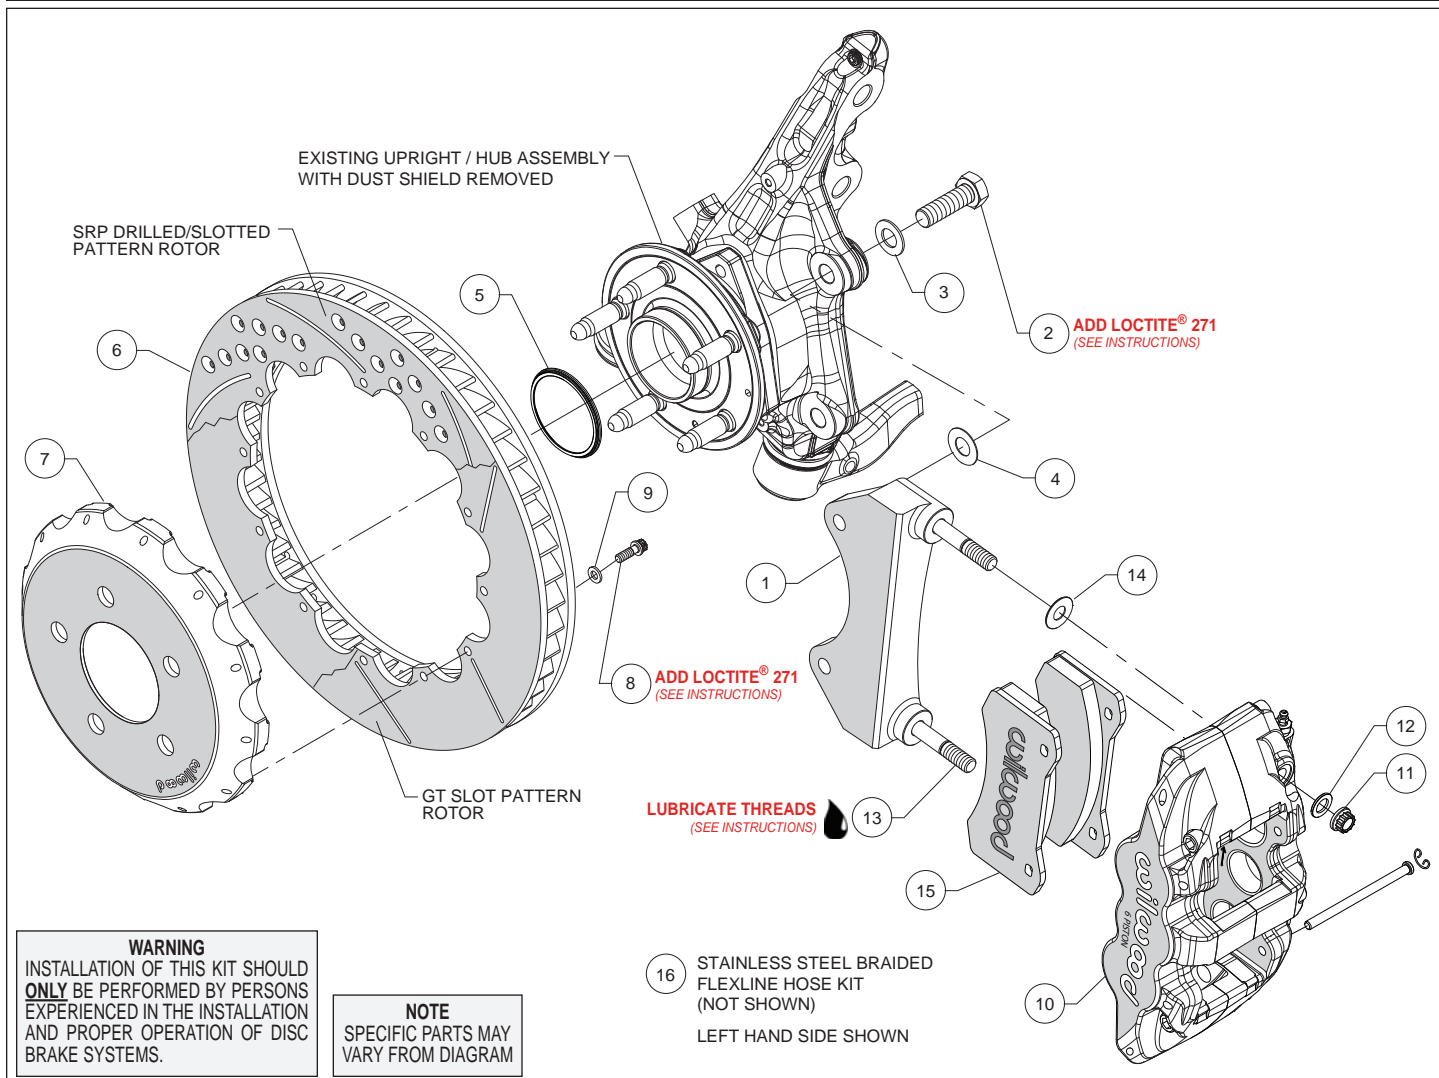
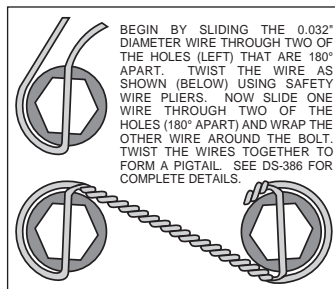

Figure 1. Typical Installation Configuration
Figure 3. Safety Wire Diagram
Assembly Instructions (numbers in parenthesis refer to the parts list and Figure 1 on the preceding pages):
- The caliper mount bracket (1) should initially be installed with clean, dry threads on the mounting bolts. Orient the bracket as shown in Figure 1, and Photo 1 and install using bolts (2) and washers (3). Initially place one .029" thick shim (4) on each bolt between the bracket and upright, Figure 1. Temporarily tighten the mounting bolts. **NOTE:** *The bracket must fit squarely against the mount bosses on the upright.* Inspect for interference from casting irregularities, machining ridges, burrs, etc. Later, after the caliper alignment has been checked, the mount bolts will be secured using red *Loctite*® 271.
- Orient the rotor (6) and the hat (7) as shown in Figure 1 and Photo 2. Attach rotor to hat using bolts (8) and washers (9). Using an alternating sequence, apply red *Loctite*® 271 to the threads, and torque to 155 in-lbs. For an added measure of security, the bolts may be safety wired using standard 0.032 inch diameter stainless steel safety wire as shown in Figure 3. Please refer to Wilwood's data sheet DS-386 (available at www.wilwood.com/Pdf/DataSheets/ds386.pdf) for complete safety wire installation instructions.
- NOTE:** *This kit contains distinct right and left hand calipers that must be mounted in a specific direction, as described below.* Lubricate the caliper mounting studs (13) with lightweight oil. Initially place one .030" thick shim (14) on each stud as shown in Figure 1 and Photo 5. Mount the caliper (10) onto the bracket (1) using lock nuts (11) and washers (12), Figure 1. Ensure that the caliper is mounted so that the largest pistons are at the rotor exit end of the caliper, in relation to the direction of rotor rotation. Temporarily tighten the lock nuts and view the rotor through the top opening of the caliper. The rotor should be centered in the caliper, Photo 6. If not, adjust by adding or subtracting shims (4) between the bracket and the upright. Always use the same amount of shims on each of the two mounting bolts. Once the caliper alignment is correct, remove the bracket mounting bolts (2) one at a time, apply red *Loctite*® 271 to the threads, and torque to 77 ft-lb.
- Remove the two pad retaining pins from the caliper (10) by carefully popping out the pin retaining clips and sliding out the pins. Insert the brake pads (15) into the caliper from the bottom, Figure 1 and Photo 7. With the friction material facing the rotor, secure the brake pads in place with the pad retaining pins and clips, Photo 8. Reinstall the caliper onto the caliper mounting bracket and temporarily tighten the lock nuts. Check that the top of the brake pad is flush with the outside diameter of the rotor, Photo 9. If not, adjust by adding or subtracting shims (14) between the caliper and the bracket. After the caliper pad height is set, torque the caliper lock nuts (11) to 47 ft-lb.